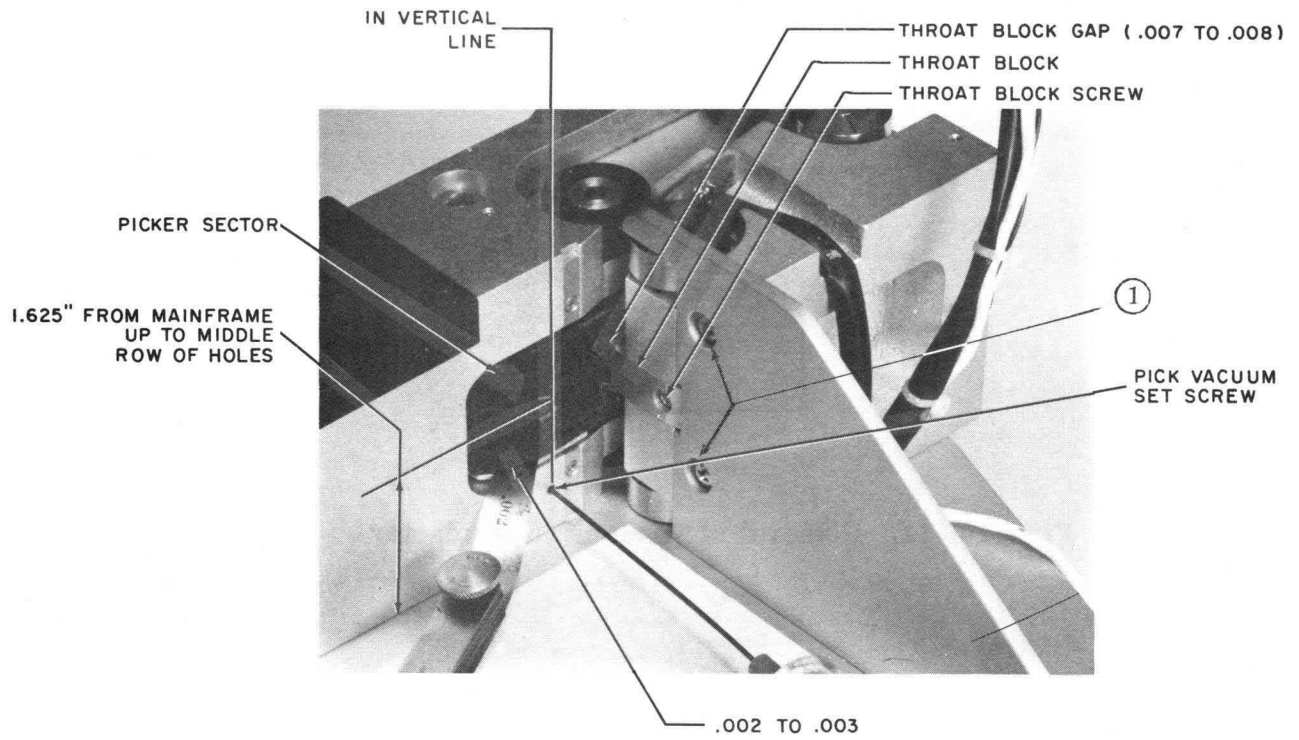

Figure 6-9. Picker Sector Adjustment, Rear View
- a. Check picker sector height adjustment. Using a 6" steel rule, measure distance from top of mainframe to center of middle row of holes in picker sector. This should be exactly 1-5/8", figure 6-9.
- f. Using a .050 Allen wrench, LOOSEN vacuum adapter plate set screw, figure 6-9.
- m. Using a small Phillips screwdriver, LOOSEN screw holding throat block, figure 6-9.